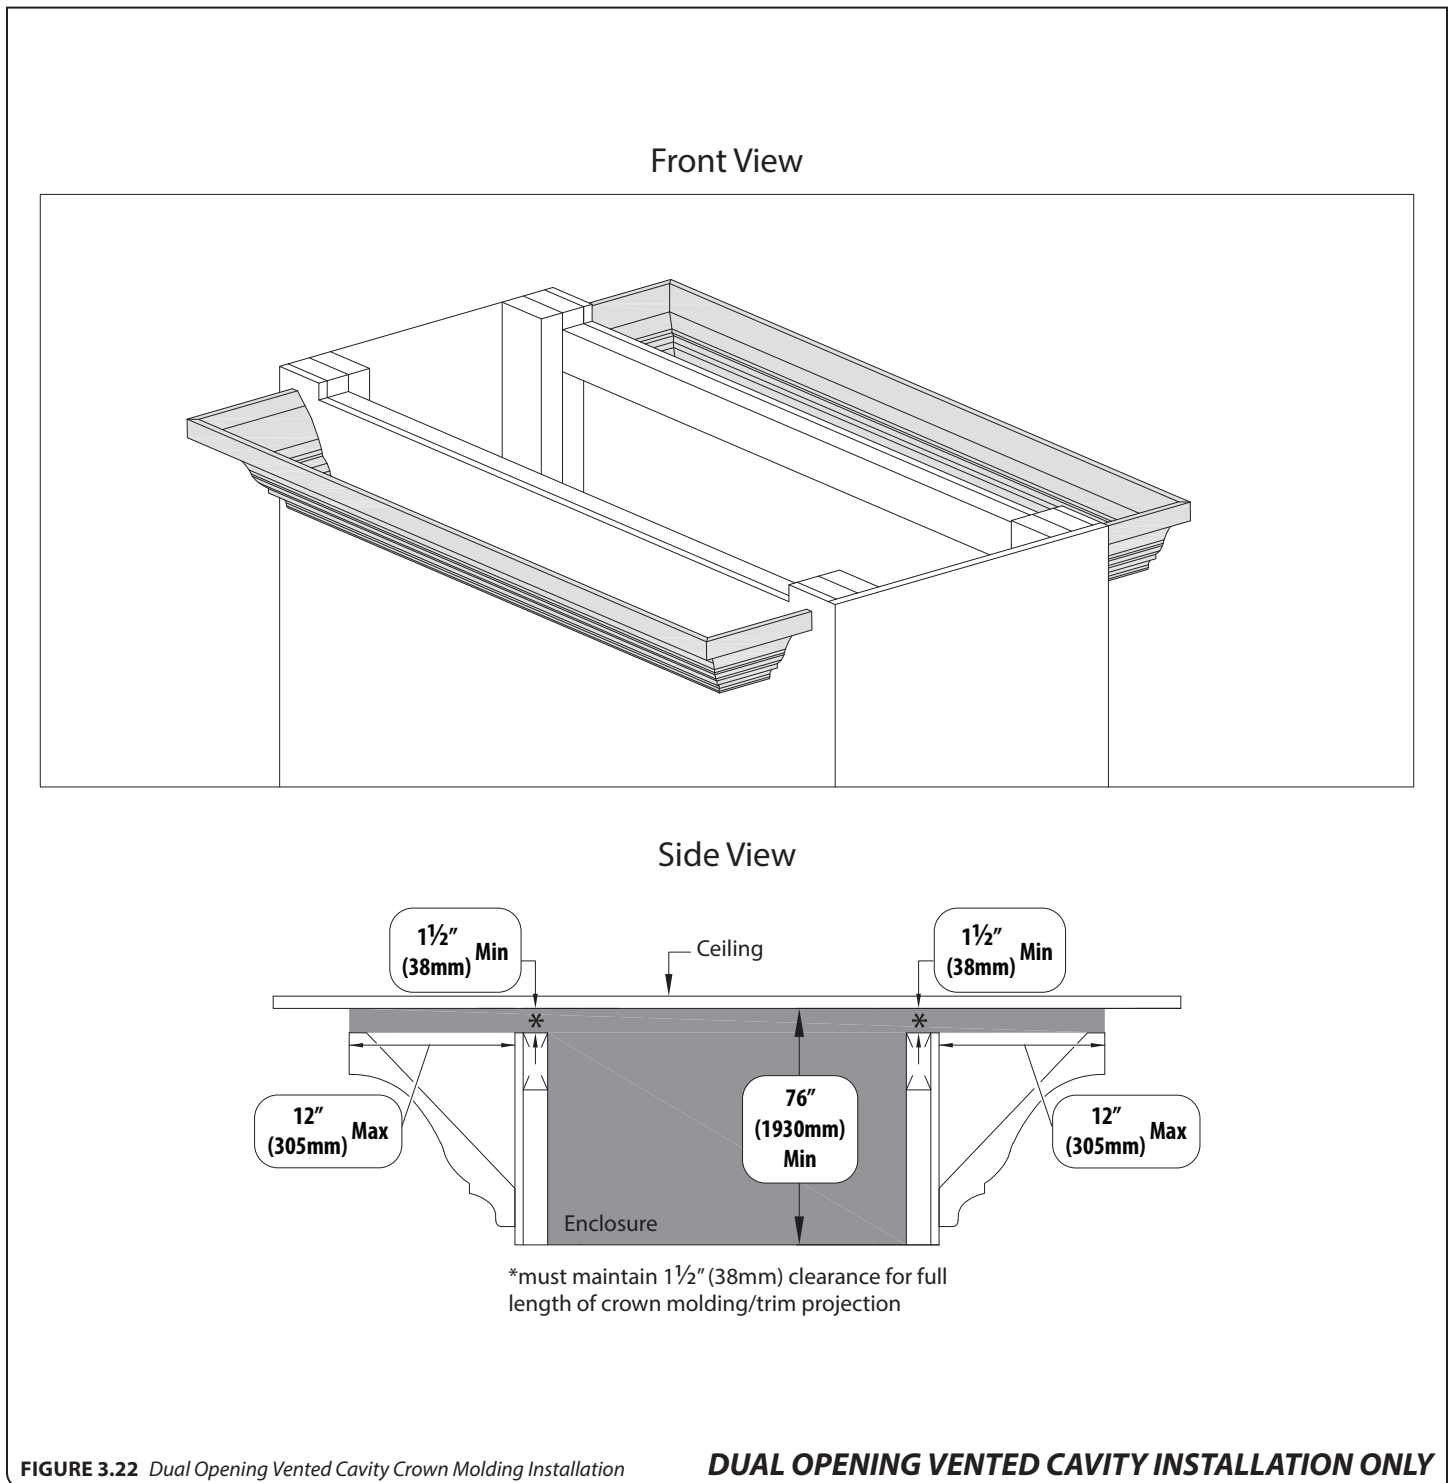

**FIGURE 3.21** Dual Opening Vented Cavity Installation
- **FIGURE 3.21** shows the minimum required dimensions for the dual opening vented cavity air discharge openings. The dual 1-1/2" (height) x 63-1/2" (width) air discharge openings are best for installations where the fireplace is dividing two rooms.
- **FIGURE 3.21** is shown with air discharge overhangs in front of the air discharge openings. This optional installation method can provide a means to visually hide the air discharge openings.